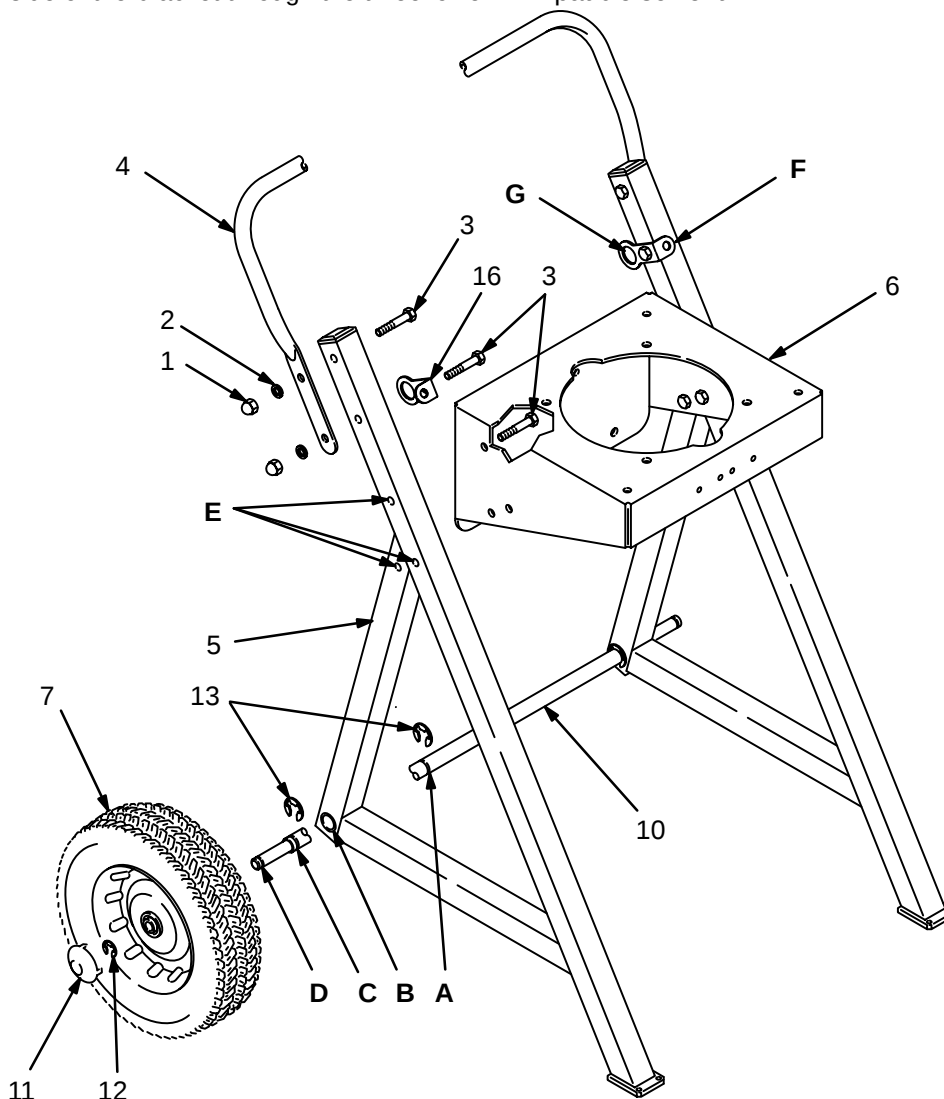

Fig 1
2. Install two of the large retaining rings (13) in the innermost grooves (A) of the axle (10). See Fig 1.
3. Slide one end of the axle (10) through the large hole (B) in one frame (5) and secure with a large retaining ring (13) in groove (C). Repeat for the other frame.
4. Slide a wheel (7) onto the axle (10). Secure with a small retaining ring (12) in groove (D) of the axle. Install the hub cap (11). Repeat for the other side.
5. Install the pump bracket (6) using three screws (3) from the inside of the bracket through the three lower
6. Assemble the handle (4) and suction tube holder (16) to one frame (5) with two screws (3), as shown in Fig 1. Be sure to hook the flange (F) of the tube holder around the front of the frame, with the large hole (G) to the rear. Secure with lockwashers (2) and nuts (1), handtight. Repeat for the other side.
As required, lubricate the axle (10) between points A and D with lightweight oil. See Fig 1.